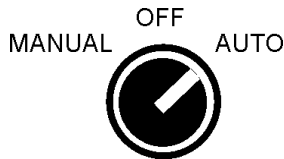

Figure 13. Manual-Off-On SW. (Auto Position)
5. To operate the pump automatically (float switches), place the 3-position operation switch in the **AUTO** position (Figure 13).